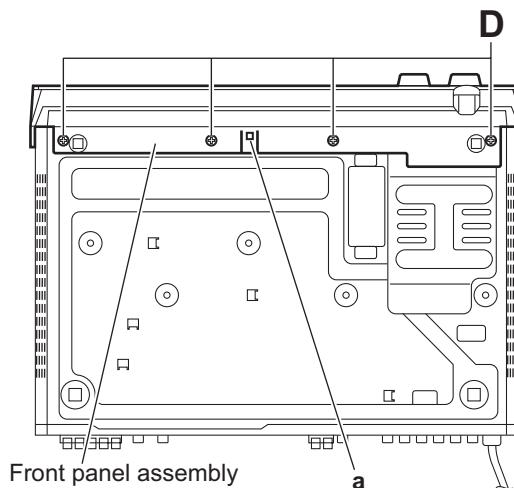

Fig.4
(4) From the bottom side of the main body, remove the four screws **D** attaching the front panel assembly and release the joint **a**. (See Fig.4)